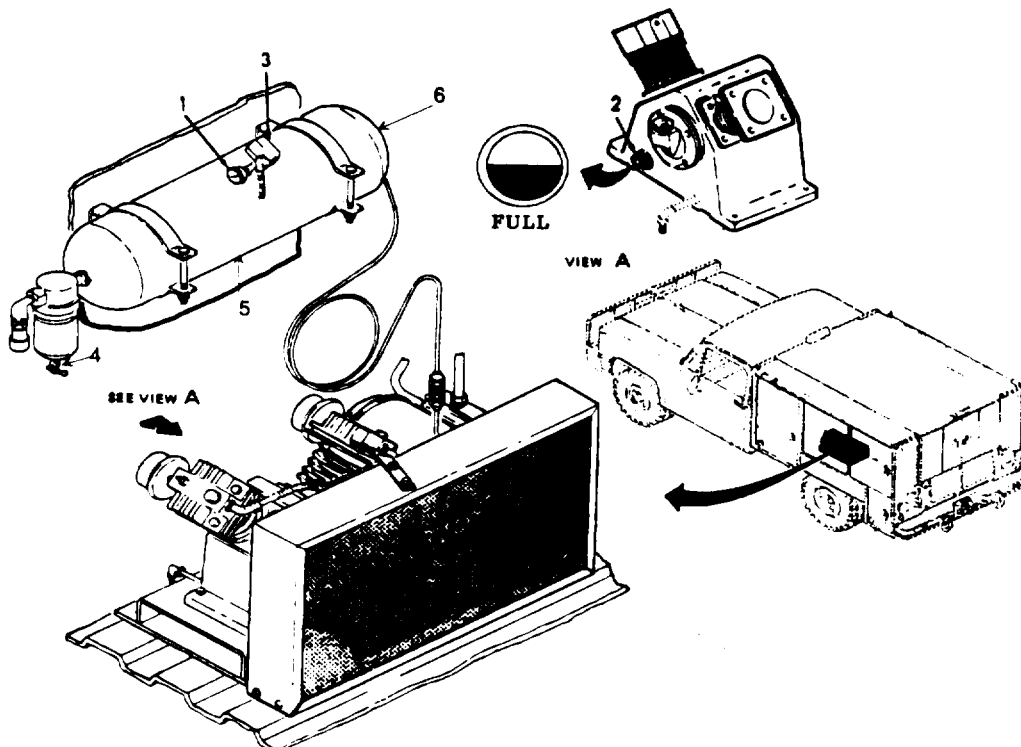

Figure 2-3. Air Compressor Controls and Indicators.
- (6) **208-VOLT, THREE-PHASE CIRCUIT BREAKER COMPRESSOR CB2.** This circuit breaker (6) is the controlling switch for the compressor. In the ON position, power is applied to the compressor. If a power oversurge occurs, the circuit breaker will trip to the OFF position and protect the compressor unit from the power oversurge.
c. **Air Compressor.** The air compressor and reservoir are located inside the body of the CMV. The air compressor is mounted on the floor section of the body and the reservoir is mounted on the street side wall. Refer to figure 2-3 for air compressor controls and indicators.
- (1) **Pressure Gage.** This gage (1) provides an indication of air pressure within the reservoir. It is expressed in psig.
- (2) **Oil Level Sight Gage.** This gage (2) is a sight gage which indicates the oil level of the air compressor.
- (3) **Pressure Control.** The pressure control (3) is an adjustable switch which turns the air compressor on when air pressure in the reservoir is below 80 psig  $\pm 5\%$  and shuts the air compressor off when reservoir pressure reaches 100 psig  $\pm 5\%$ .